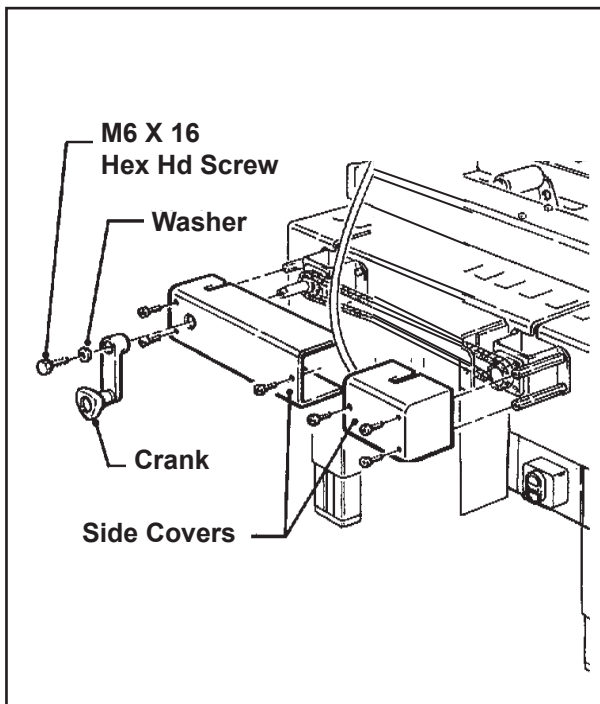

Figure 13-10 – Crank/Chain Guards
1. Remove M6 x 16 hex hd screw, special washer and drive belt width adjustment crank - **Figure 13-10**.
2. Remove side covers (2) from each side of machine bed - **Figure 13-10**.